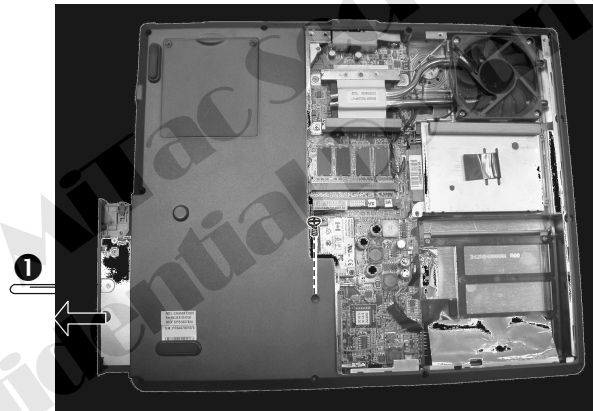

Figure 2-9 Remove the CD/DVD-ROM drive
2. Remove one screw fastening the CD/DVD-ROM drive. (Figure 2-9)
3. Insert a small rod, such as a straightened paper clip, into CD/DVD-ROM drive's manual eject hole (❶) and push firmly to release the tray. Then gently pull out the CD/DVD-ROM drive by holding the tray that pops out(❷). (Figure 2-9)